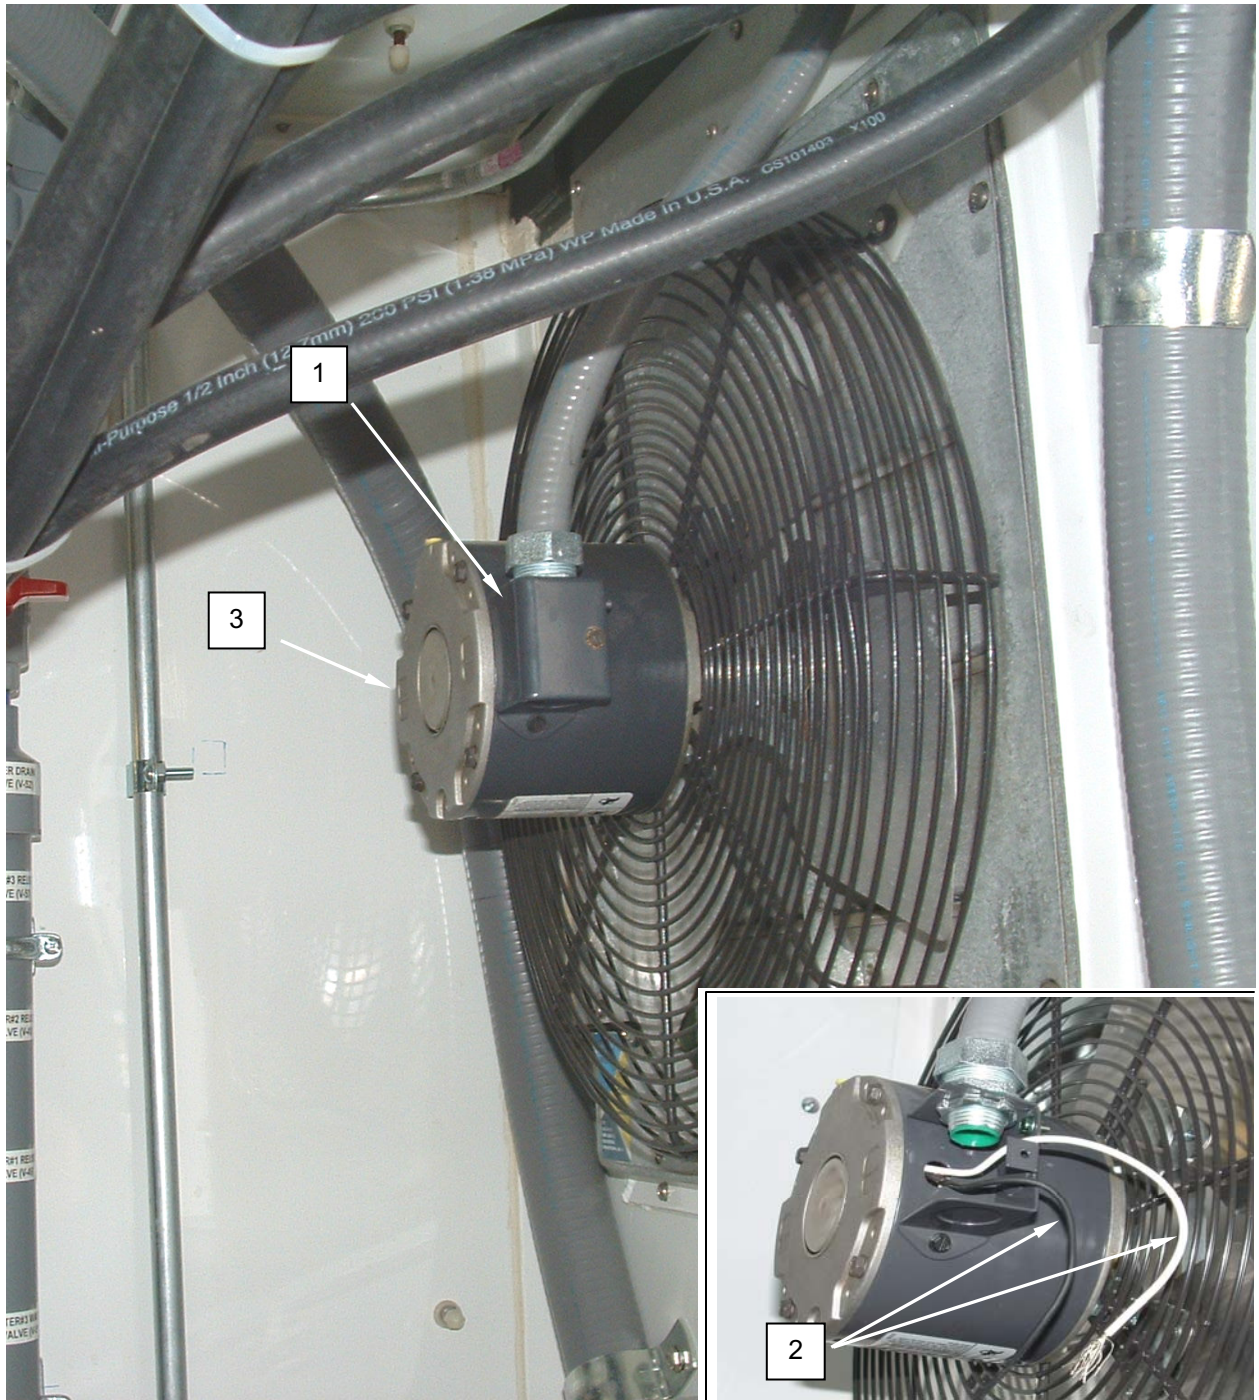

Figure 1. Test the Exhaust Fan.
2. Remove screws retaining junction box cover (**Figure 1, Item 1**) and remove cover.
3. Tag and disconnect wiring (**Figure 1, Item 2**) from fan motor. The wiring may need to be cut.
4. Use an ohmmeter to test for 0 - 10 ohms resistance between motor leads (**Figure 1, Item 2**).
5. Use an ohmmeter to test for infinite resistance between each motor lead (**Figure 1, Item 2**) and ground.
7. If tests are satisfactory, re-connect wiring to fan motor (**Figure 1, Item 3**) as tagged.
8. Place junction box cover (**Figure 1, Item 1**) into position, and retain with screws.